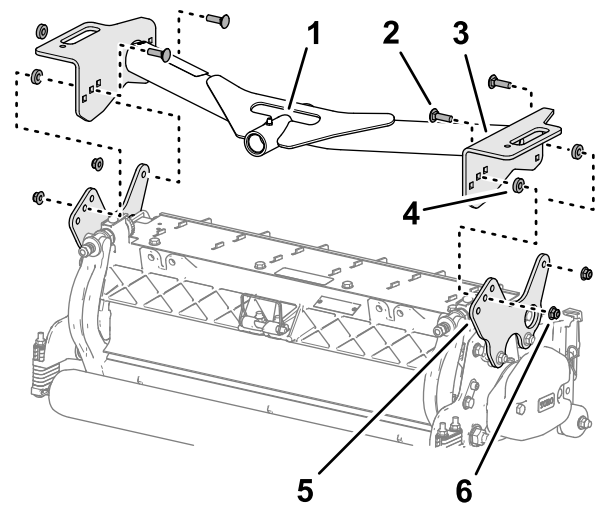

Figure 17
- Align the holes in the plates of the front-carrier frame with the holes in the cutting unit mounting plates (Figure 17).
- Align a spacer between the carrier plate and mounting plate (Figure 17), and loosely assemble the plates and spacer with a carriage bolt (3/8 x 1-1/4 inches) and flange locknut (3/8 inch).